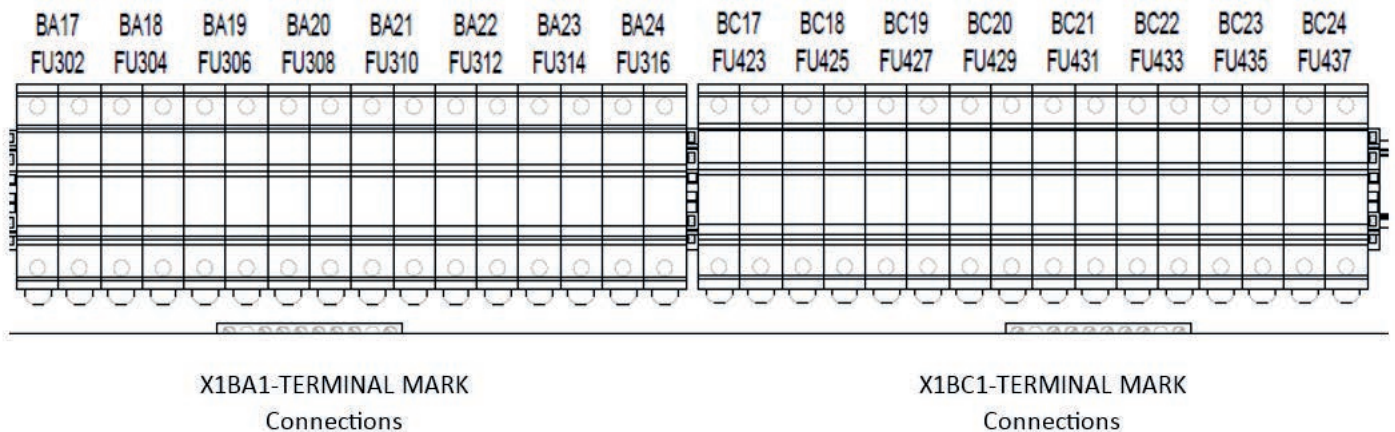

Figure 103. B-Cab XXL Auxiliary Harness Termination Point
- g. Terminate the loose wire end onto the bottom of the fuse holder, see Figure 105 for location within the M-Cab XXL. Match the “TERMINAL MARK” specified on Table 21 with the fuse holder reference as shown in Figure 103.